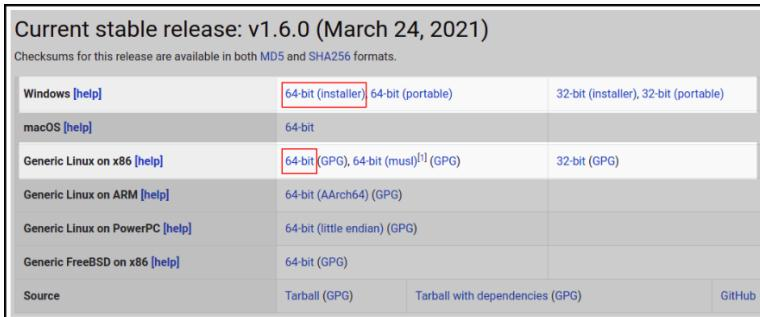

Figure 3.27: Julia’s website to download 64-bit Windows/Linux binaries
1. Visit the URL <https://julialang.org/>. At the top of the page, locate the Download tab and click on it. From the Current stable release, download the required Julia binaries (32 or 64-bit) for Windows, as shown in Fig. 3.27. At the time of writing this book, the Current stable release refers to Julia 1.6.0, as shown in Fig. 3.27. In this book, we will perform experiments with a 64-bit installation of Julia 1.6.0.
3. Visit the URL <https://julialang.org/>. At the top of the page, locate the Download tab and click on it. From the Current stable release, download the required Linux binaries (32 or 64-bit) for Generic Linux on `x86`, as shown in Fig. 3.27. At the time of writing this book, the Current stable release refers to Julia 1.6.0, as shown in Fig. 3.27. In this book, we will perform experiments with a 64-bit installation of Julia v1.6.0.